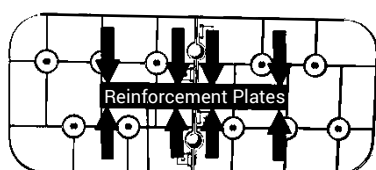

Figure 12
3. Place the reinforcement plates onto their location on the thread rack plates. See Figure 12.